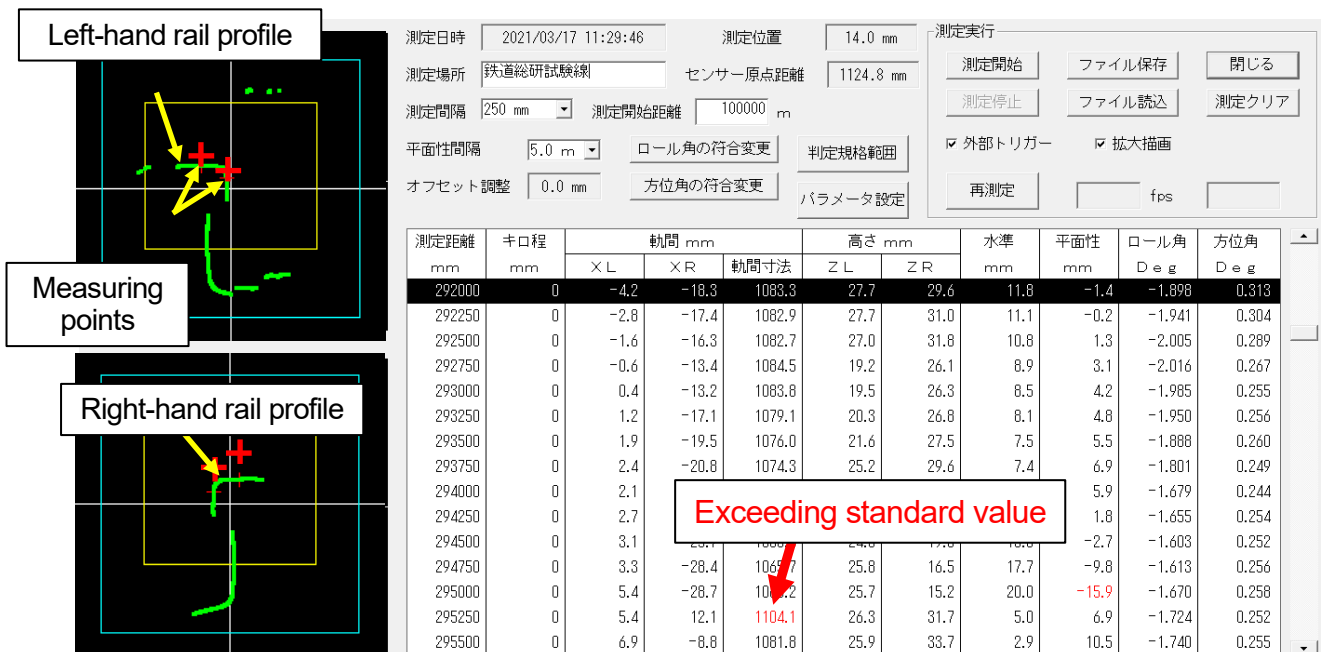

Fig. 3 Display of results
- The measurement data is shown in tabular format. (Fig. 3 right) The points exceeding the preset standard value for replacement, repair and other maintenance necessities are shown in red color and oversights can be prevented.
- Rail profiles are shown as figures. (Fig. 3 left) The figure indicates measurement points on the rail used to calculate track displacement. In case an outlier is detected, it is possible to distinguish whether it is due to a measurement error or to track irregularities.